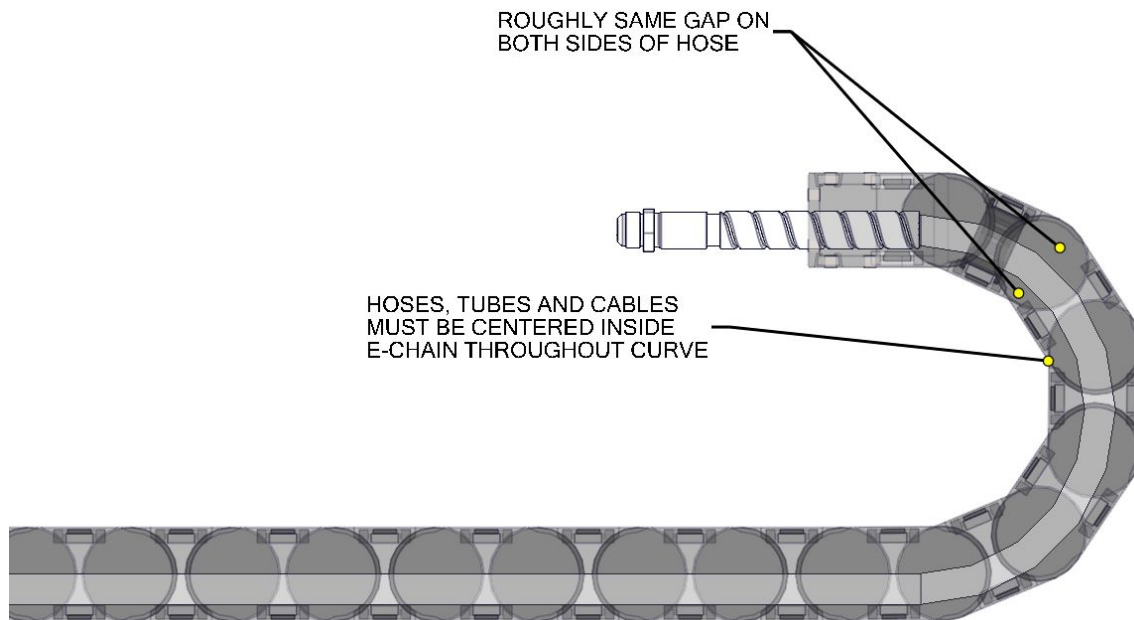
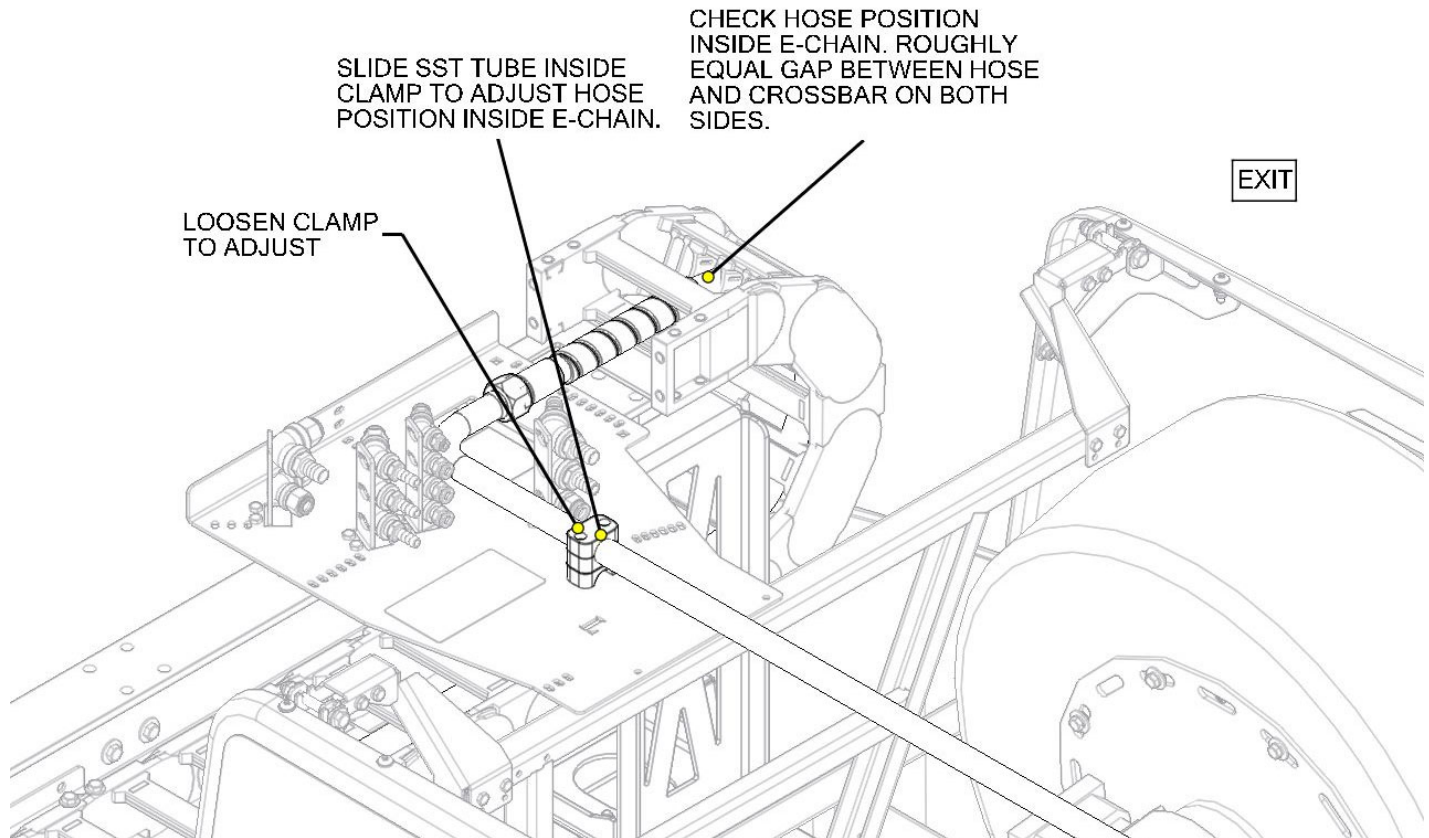

Figure 81 - Proper Loading of E-chain
Figure 82 – High-pressure Hose Adjustment in Main E-chain
- It is important to position and secure the high-pressure hose into the correct position within the E-chain. The hose should always travel in the middle of the E-chain at the E-chain curve, Figure 81. The hose should not be pushed tight against the E-chain cross bars on the outside. The hose should also not be pulled tight against the cross bars on the inside of the E-chain.
- Adjust the hose position at the bridge end by loosening the tube clamp and pushing or pulling the stainless tube inside the clamp as shown in Figure 81. This will change the hose position inside the E-chain. If the straight section of the stainless tube is not long enough to provide enough adjustment, then adjust the position by sliding the fixed end bulkhead in its slotted mounting holes, shown in Figure 82.
- Adjust all the other cables, tubes, and hoses inside the E-chain. Push or pull each line at the moving end of the E-chain. It is important that all the lines throughout the E-chain are in the middle of the E-chain through the curve, Figure 81. All lines should be relaxed and not twisted relative to each other.